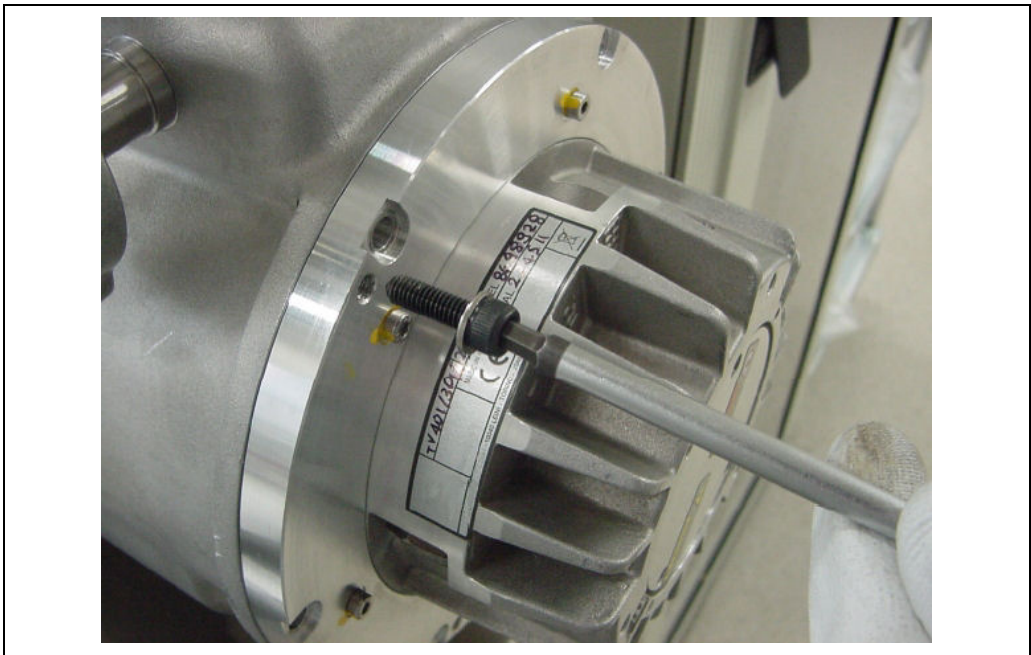

Figure 38
3. Engage 3 sphere-screws into the M6 threaded holes present on the pump flange (blue rhombus in Fig. 2, see Fig. 38).